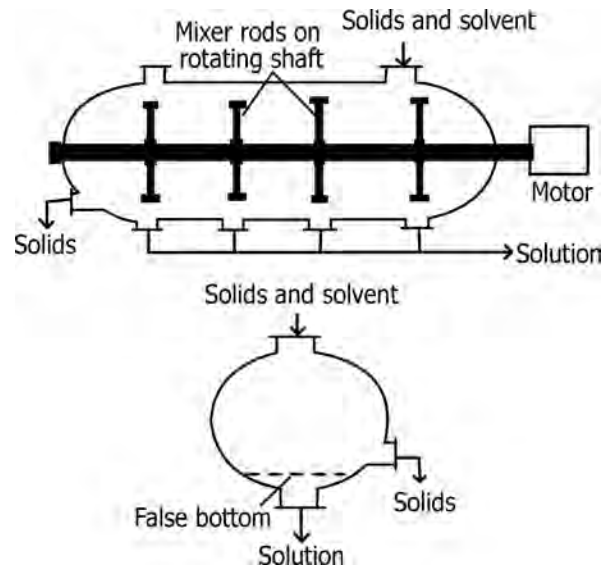

FIGURE 17.60 Batch solid-liquid extractor (horizontal).
- Figure 17.60 is a horizontal solid–liquid extractor. The false bottom construction for solution exit acts as a solids retainer while allowing the solution is exited. Multiple solution exits are shown for the liquid for large vessels.